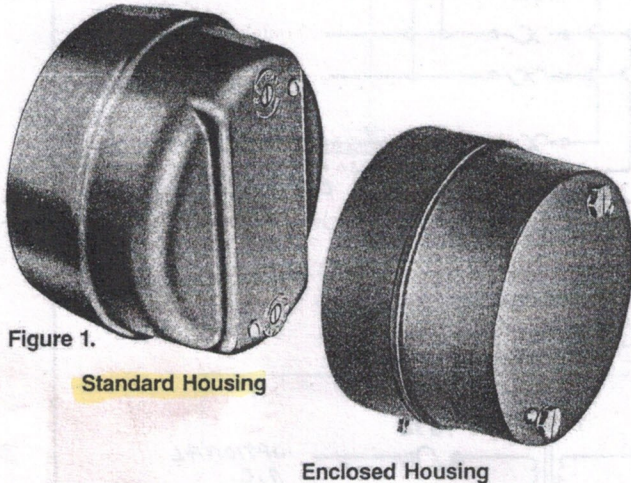
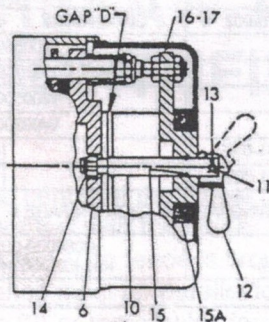
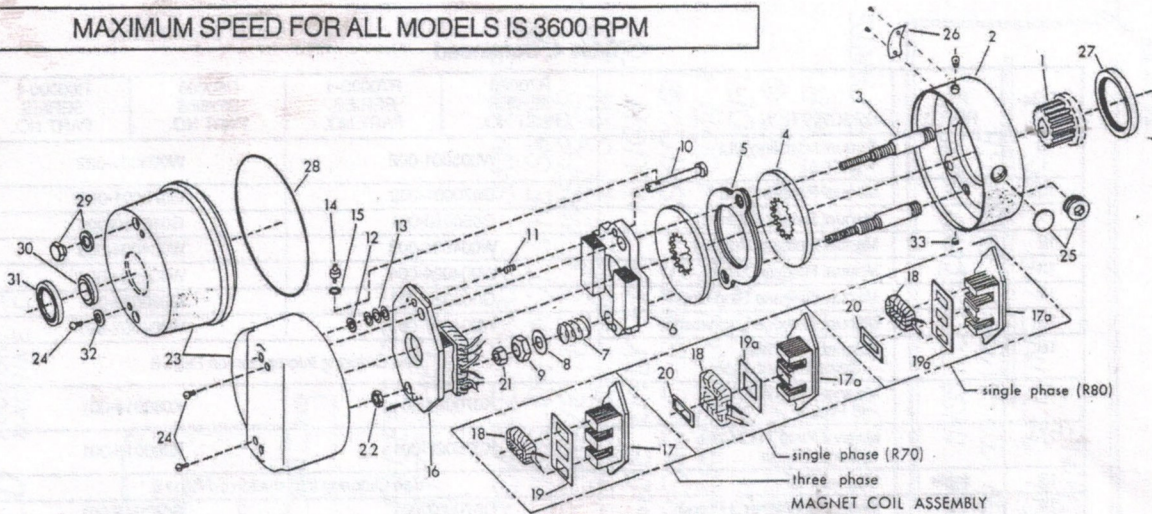

Figure 1.
Figure 4.
Figure 5. Exploded View of Brake
Figure 1 illustrates Direct brakes with a standard manual release. This release consists of two rods visible thru the cover. An optional release, the Mark II, has a single lever as shown in Figure 4.
Refer to Figures 4 & 5
To operate standard release (Figure 5), rotate two rods (10) clockwise until stop screw (14) hits pin. To operate Mark II release (Figure 4), push lever (12) to upward position. Brake will remain in released position until rods or lever are manually returned to original position, or until electrical power is restored which automatically resets the brake.
1. Remove cover screws (24) and cover (23), plus "O" ring (28) and gasket (32) on enclosed models.
2. Standard release model: Unhook loop of torsion springs (11) from pins at rear of magnet plate (16). Remove release stop screws (14) washers (12) and shims (13). See Figure 5. Mark II release model: Remove cotter pin (13) and release lever (12). See Figure 4.
3. Remove adjusting lock nuts (22) magnet assembly (16), adjusting nuts (21), torque nuts (9), washers (8), torque spring (7) and pressure plate (6).
4. Remove friction disc (4) and stationary disc (5). Replace worn friction discs.
When assembling a standard manual release mechanism (Figure 5), add only enough shim washers (13) to obtain proper release action. Too many shim washers will prevent automatic reset when electrical power is applied. Too few washers will prevent the motor shaft from turning freely. Replace stop screws (14). Wind each torsion spring (11) approximately 1/4 turn and hook spring loop over pin.
When assembling a Mark II manual release mechanism (Figure 4), attach lever (12) to release rod (10) with pin (11) and cotter pins (13). With lever (12) in raised position, rotate lever until pressure plate (6) makes contact with magnet assembly (16) closing gap "D." Lower the lever and turn counterclockwise 1/4 turn. The lever should now hang down, and if not, remove lever and relocate it close as possible to down position as holes in rod (10) allow. The lever must hang down because reset is by gravity (vertical mounted brakes have return springs).
Refer to figures 5 & 6.